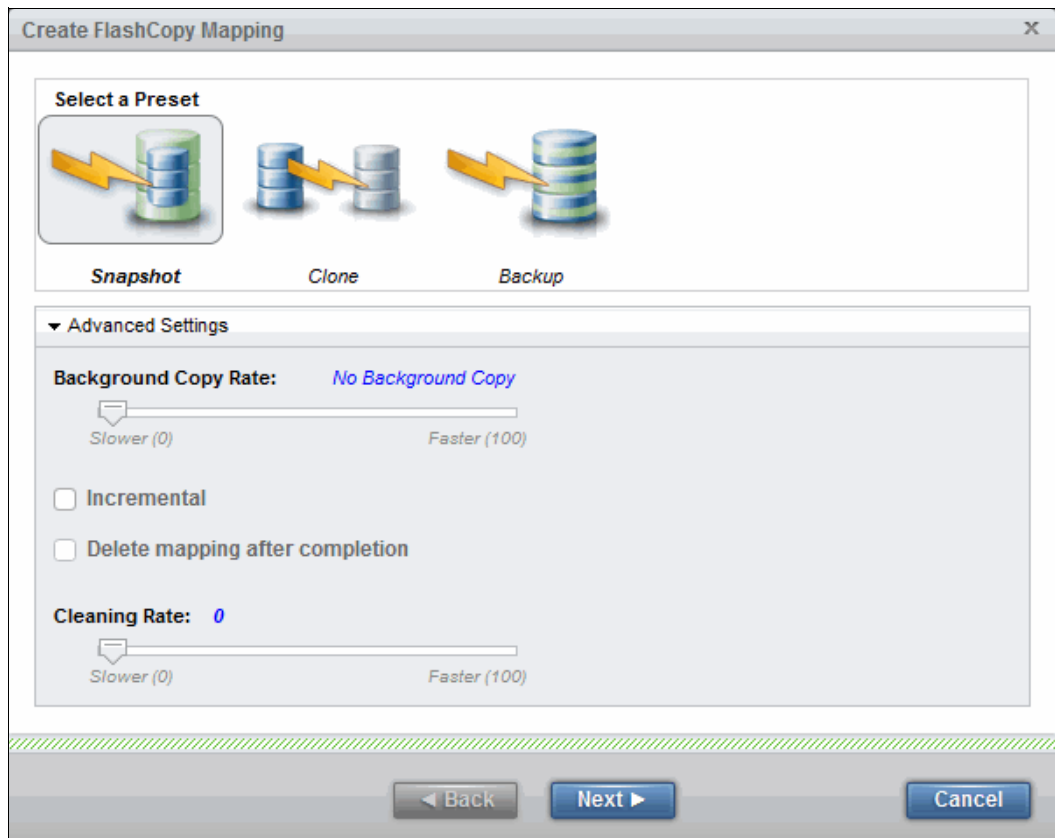

Figure 10-16 Default settings for the snapshot preset
- The following default advanced settings for the *Snapshot* preset are shown in Figure 10-16: